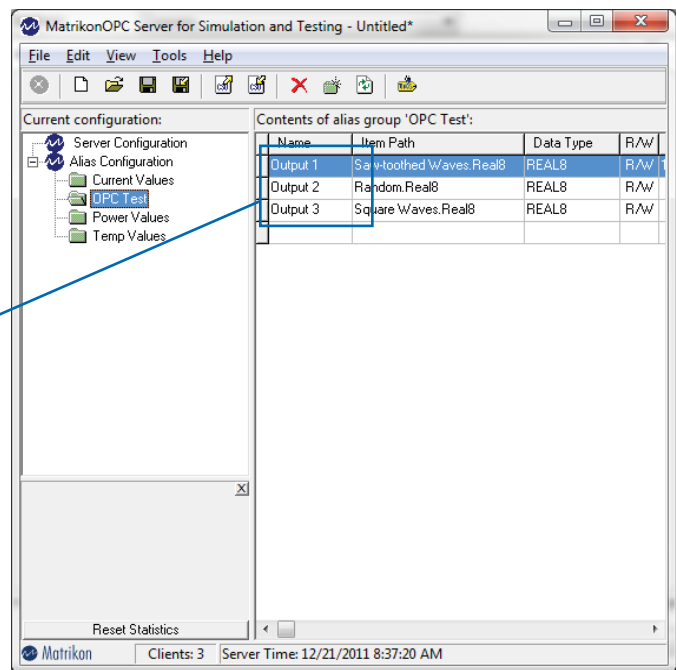

Fig. 7. OPC alias list.
- Click the search button (...) and wait a few seconds until the OPC alias list appears (→ **fig. 7**).